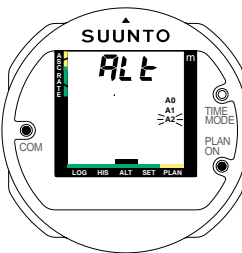

Fig.4.9 PERSONAL/ALTITUDE ADJUSTMENT SETTING, STEP 3
3. Connect again the PLAN/ON and COM contacts until the blinking personal/altitude adjustment mode starts to scroll. Release your fingers when the desired mode is blinking (Fig. 4.9). Wait at least two seconds but no more than four seconds before next step.